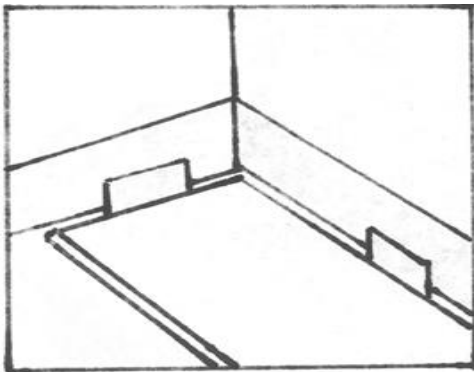
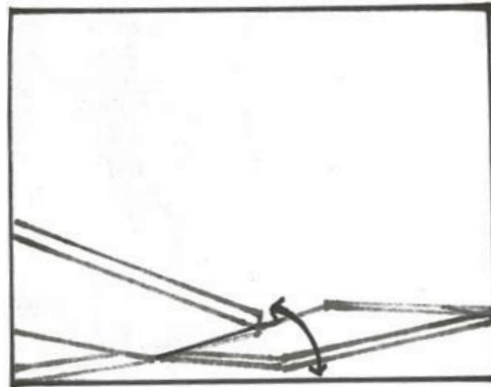

FIGURE 1
FIGURE 2
- Begin the first row working right to left. Insert minimum $\frac{1}{4}$ ” spacers around the perimeter of the room allowing for proper expansion space. See figure 1. The tongue should be facing the wall. Insert the next plank to the left and connect the short joint (figure 2) at an angle, ensure a complete connection between the two.